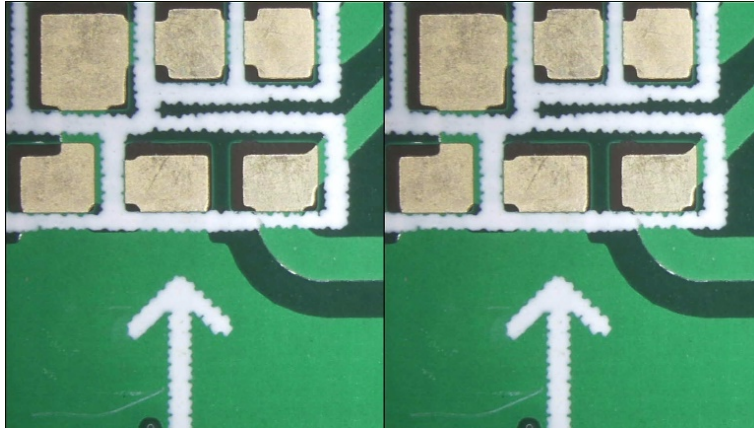

Fig 5-51 Right Side Compare mode
- Right Side Comparison : Enable/Disable the Right Side Compare mode. The loaded image is on Right side. Left side image is live preview image. Below Fig 5-51 Transparency: 100%, Image Location: 100%, Offset Ratio: 0%, Image Ratio: 50%.